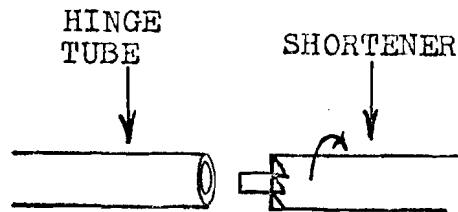

Figure 52
2. Using the hinge tube shortener (Figure 52), remove a small amount of metal from the end of the tubing.